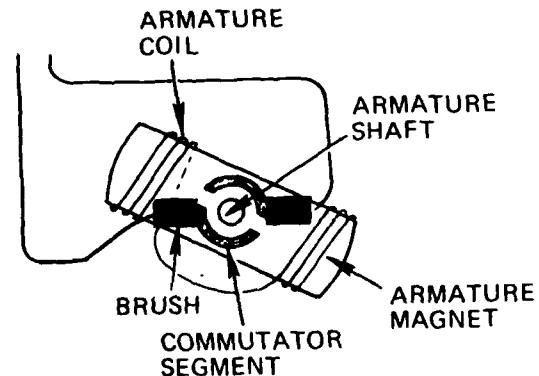

Figure 31
- The brushes are attached to the motor frame and touch the commutator. They provide a path for electricity from the power supply through the commutator to the electromagnet coils in the armature. (See Figure 31)